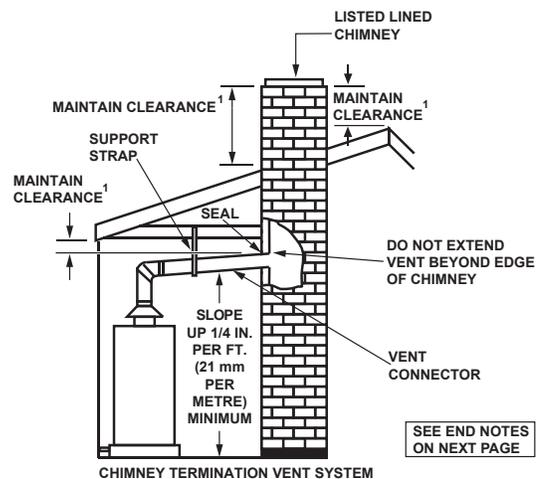

FIGURE 10
- The connector must not extend beyond the inner edge of the chimney as it may restrict the space between it and the opposite wall of the chimney (see Figure 10).